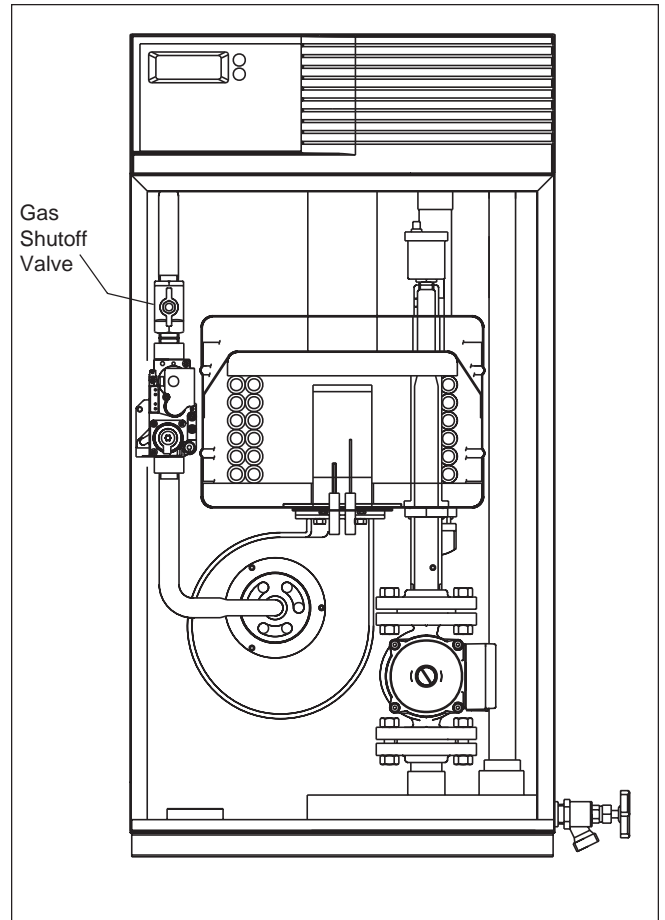

Figure 2. EDP/EDN Assembly View.
6. Turn gas shutoff valve clockwise ↻ to "off". Handle will be horizontal, do not force (see Figures 2 and 3 for location).
7. Wait five (5) minutes to clear out any gas. If you then smell gas, STOP! Follow "B" in the safety information above on this label. If you don't smell gas, go to next step.